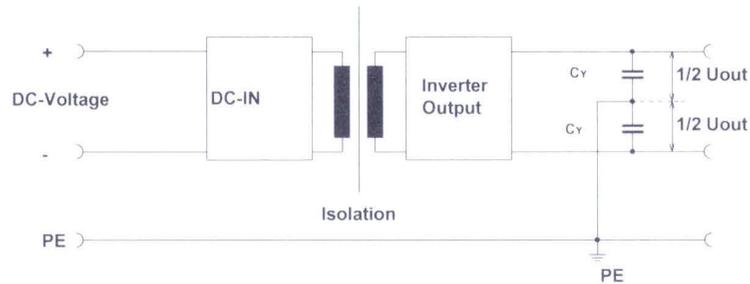

FIGURE 1
For above mentioned applications, the user can do a "classical grounding" at any time by connecting one of the phases to PE. One pole is defined as neutral (N) wire in this case and the remaining one is the phase (L1). See figure 1 for reference.